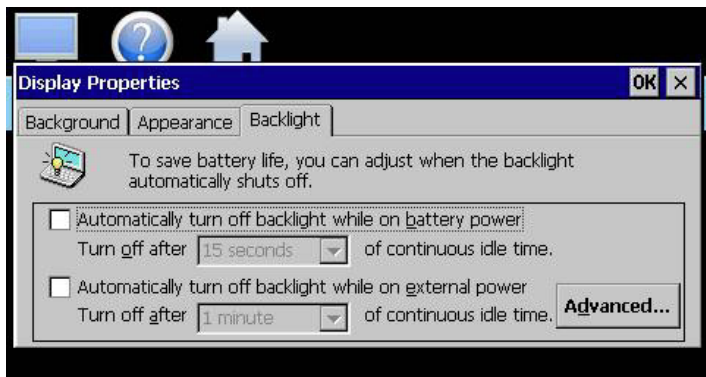

Fig. 114: Backlight Tab
- From the DISPLAY PROPERTIES screen, select the BACKLIGHT tab (Fig. 114).